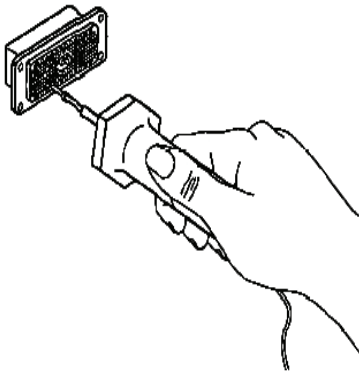

Figure 18. Removing Contact from Connector Mechanism
- e. Press wire firmly against serrated edge of removal tool and pull wire straight out from contact cavity (Figure 18).